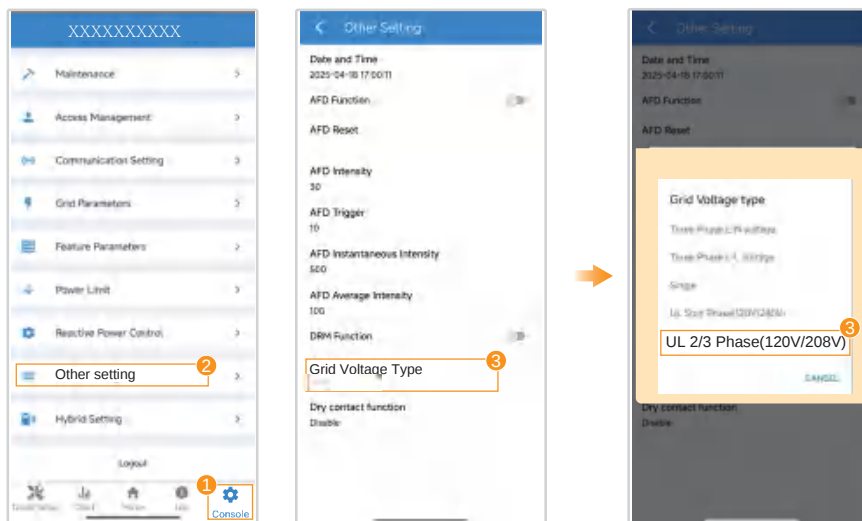

Figure 4-3 Set Grid Voltage type
- Step 3** Go to **Console > Other Setting > Grid Voltage type** to select the correct phase type: **UL 2/3 Phase (120V/208V).** (Figure 4-3)